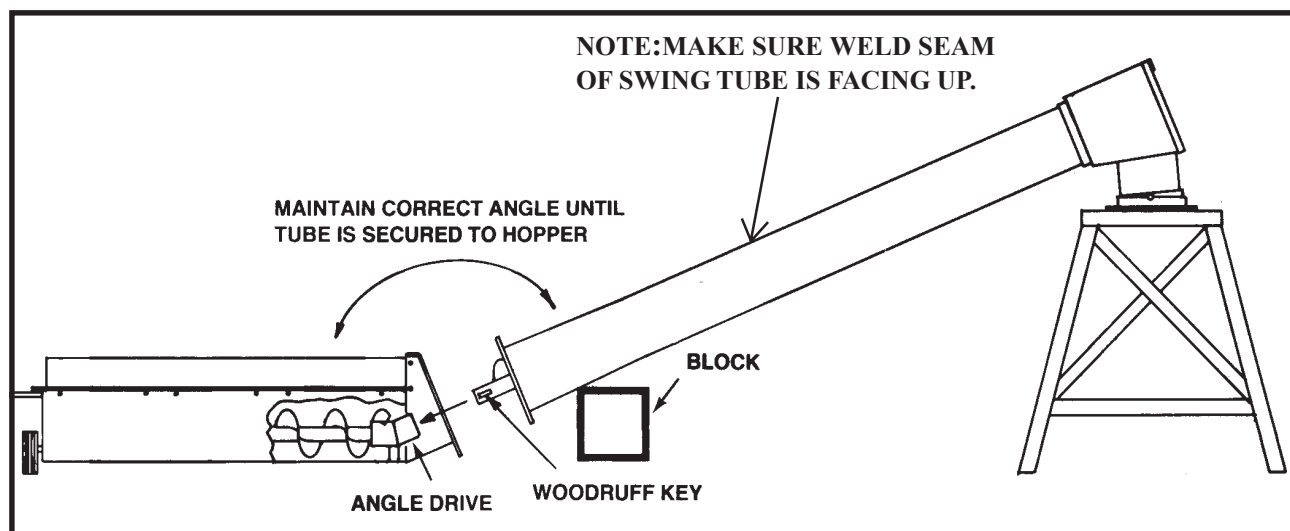

Figure No. 23
(See **Figure No. 23** and **24**)
1. Remove access covers, then clean paint and dirt from flight shaft end. Insert Woodruff key into flight shaft end as shown in **Figure No. 23**.